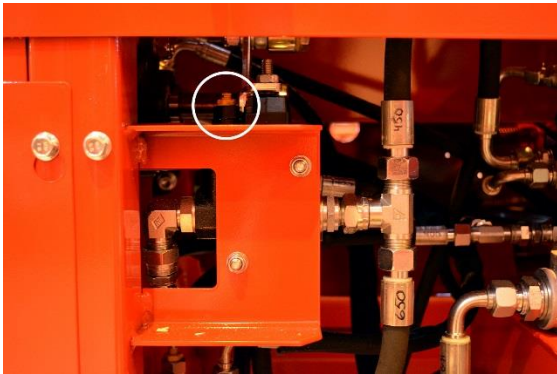

Figure 48.
1. Cutting and splitting valve pressure regulating screw in Figure 48.